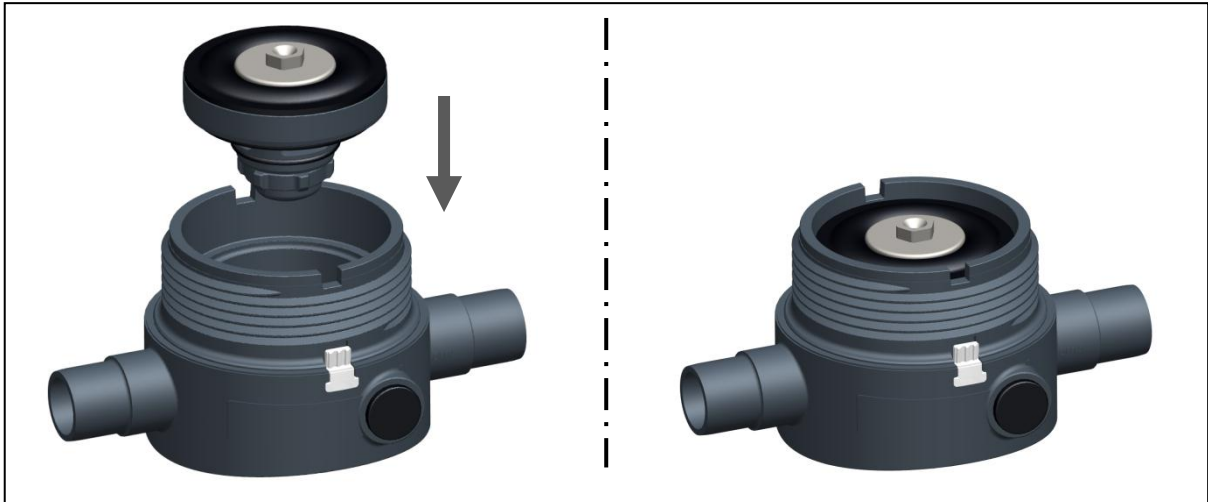

Fig. 12
- Position the cartridge in the body and push in, see Fig. 12